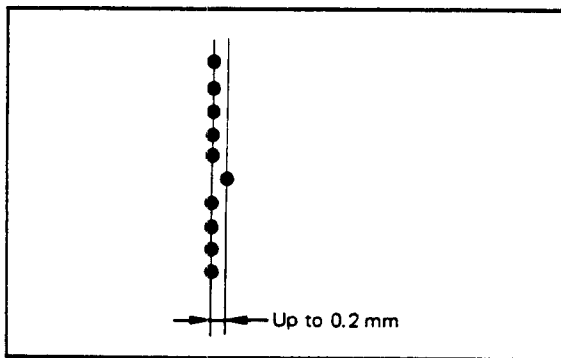

Figure 10-8.
- 7) Scattering (range of random fluctuation) of printed positions may be up to 0.2 mm as shown in Figure 10-8, and when input is constant, printed position should not fluctuate cyclically.